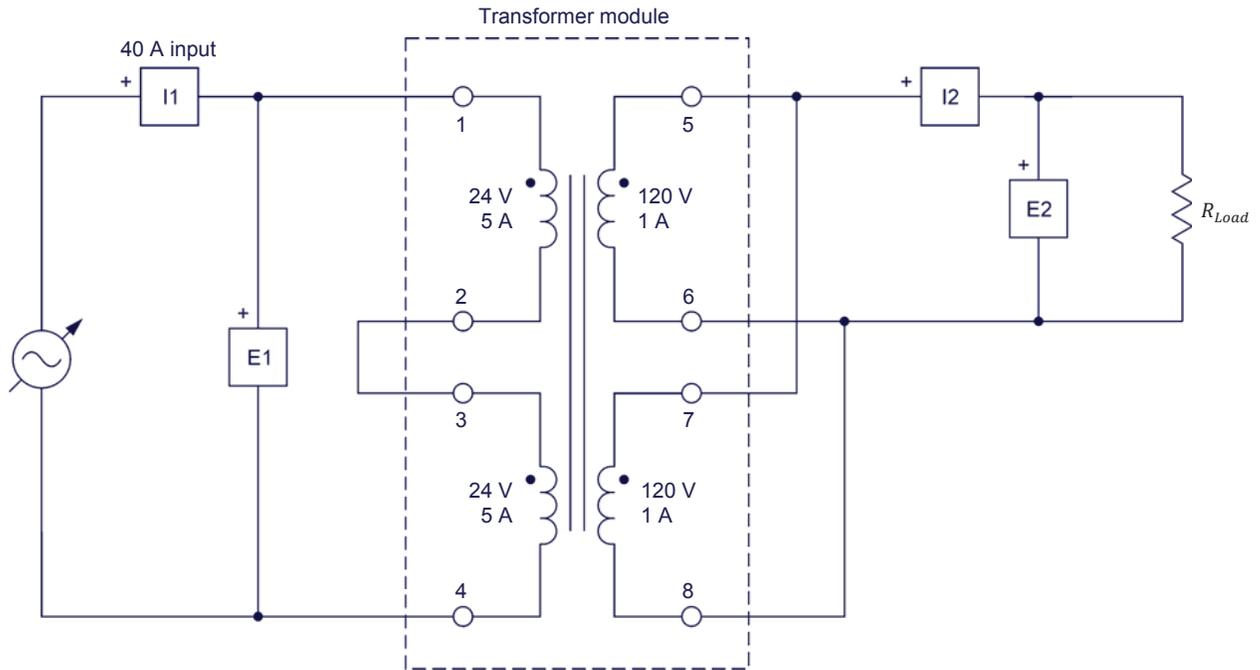

Figure 31. Step-up transformer connected to a resistive load.
31. Connect the equipment as shown in Figure 31.